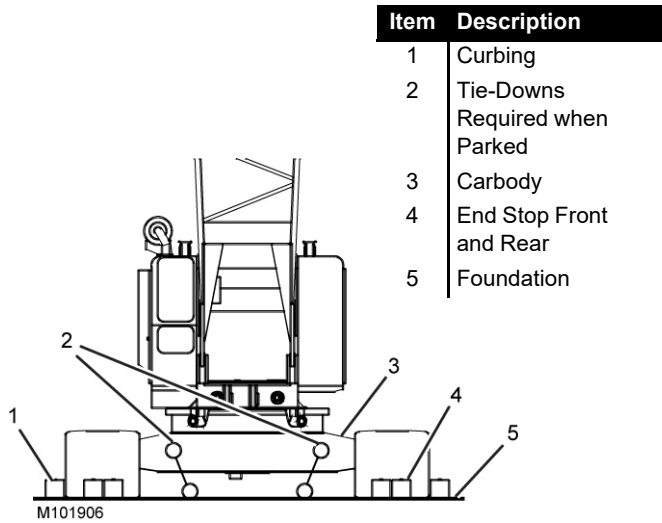

Figure 2-8. Crawler-Mounted Crane
2. Crawler-mounted crane working on a timbered area of the barge, ship, or floating platform with the crawlers restrained by curbing and end stops (Figure 2-8). When not working, the crane carbody is anchored with tie-downs to the foundation. **Traveling with load is not permitted.**